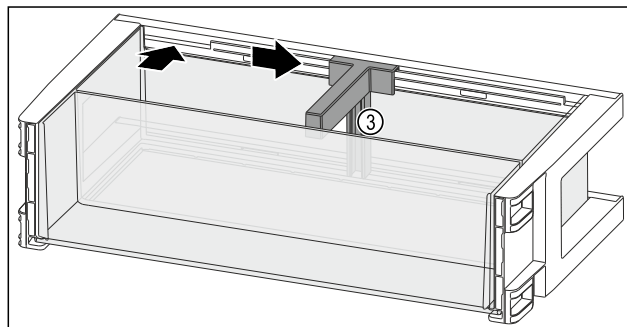

Fig. 146
- Insert the bottle holder *Fig. 146 (3)* in the recess.
- Push the bottle holder *Fig. 146 (3)* to the desired position to the side.